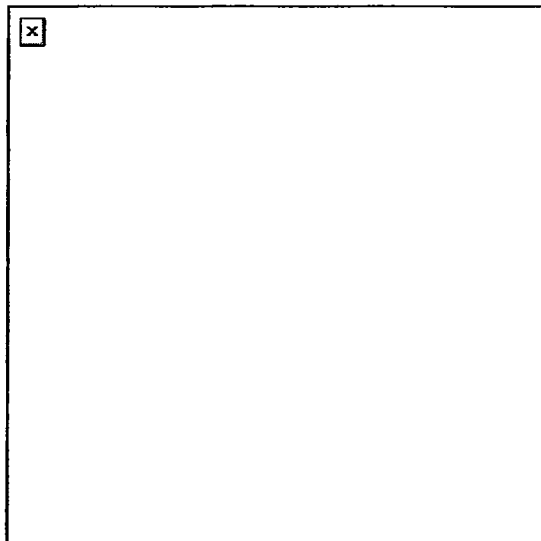

Figure 5. Weaver grip.
- (3) Weaver grip (Figure 5). Apply this grip the same as the fist grip, but wrap your nonfiring thumb over your firing thumb.